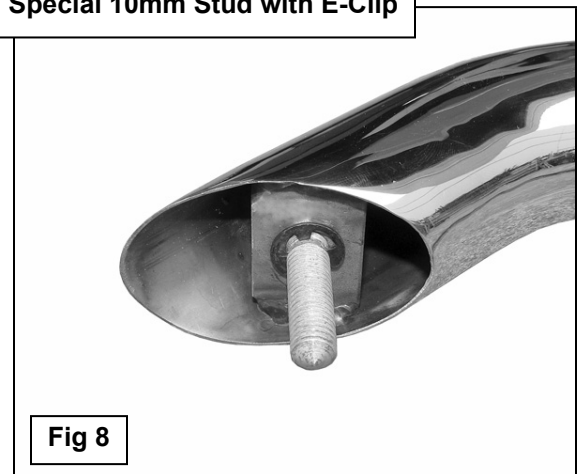
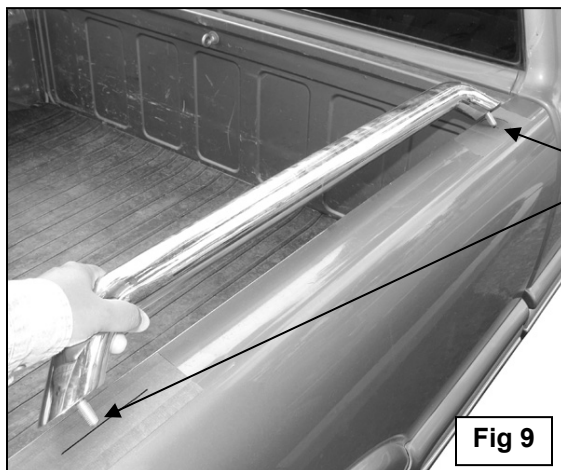

Fig 8
Fig 9
5. Measure the Bed Rail from the center of threaded hole to center of threaded hole and transfer this measurement to the rear mounting location, (Figure 7). Check under the top edge of the truck bed at both ends of the Bed Rail for adequate clearance. Once satisfied with the location, thread the 10mm Special Studs, (with E-Clips), into the Bed Rail, (Figure 8). Line up the tapered end on the 10mm Stud with the front drill location. With slight hand pressure, use the tapered end on the Stud to mark the back drill location onto the line on the tape, (Figure 9). Check measurements again and once satisfied, drill a 7/16" hole through both mounting locations marked on the top of the bed. **IMPORTANT:** To minimize the chance for damage, it is recommended that you start by center punching the spot first, then drill a small pilot hole and gradually increase drill bit size.